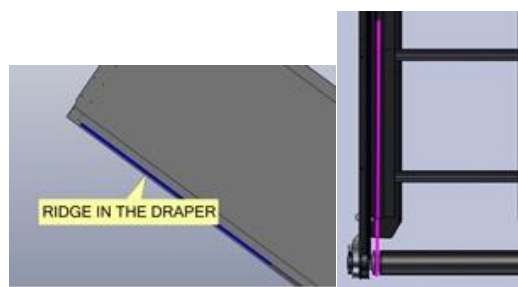

Figure 75
3. Place draper bundle on the top of deck runners, and unroll with the slats facing up. Be sure to align the v-guide with the notched side of the roller toward the rear of the header. Figure 75